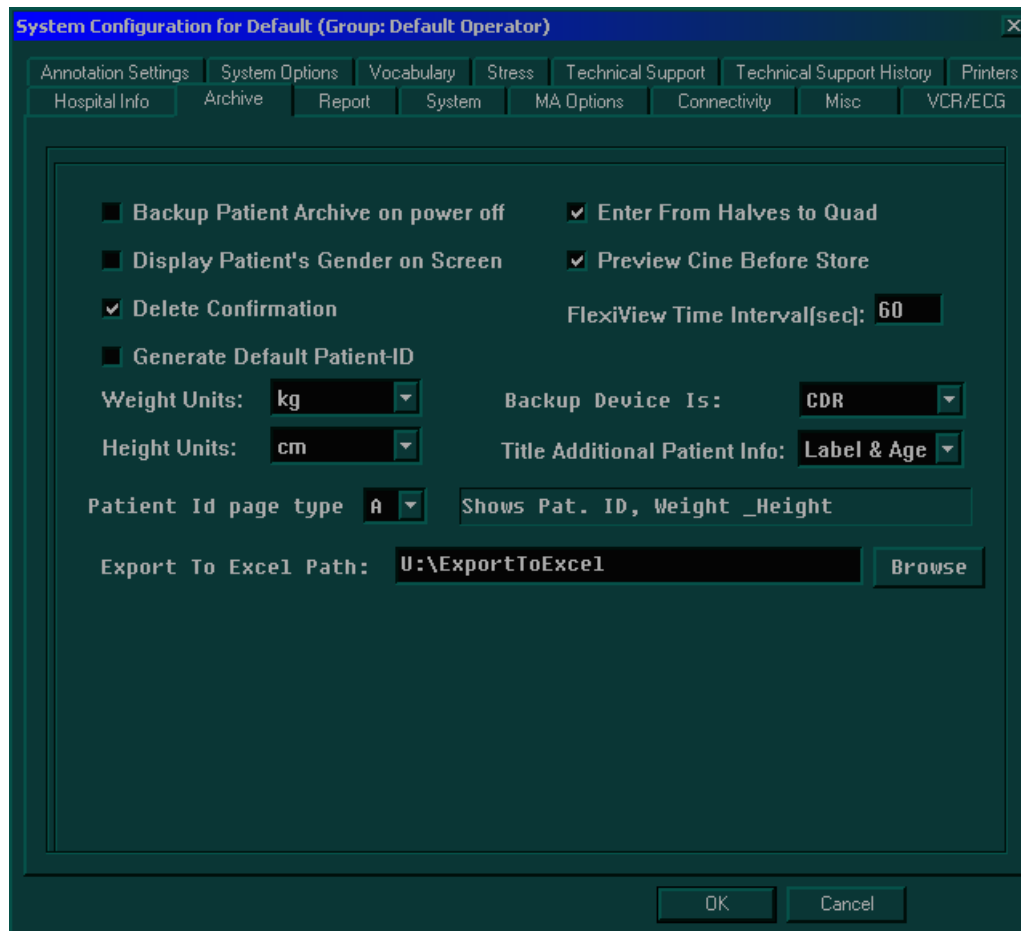

Figure 3-22 Archive Tab
- When the FlexiView option is installed the time period (in seconds) after which a cineloop is automatically stored in the archive without interrupting the user's monitoring must be set in the **FlexiView Time Interval[sec]** field. Figure 3-22 "Archive Tab" on page 3-38 indicates the recommended default factory setup.